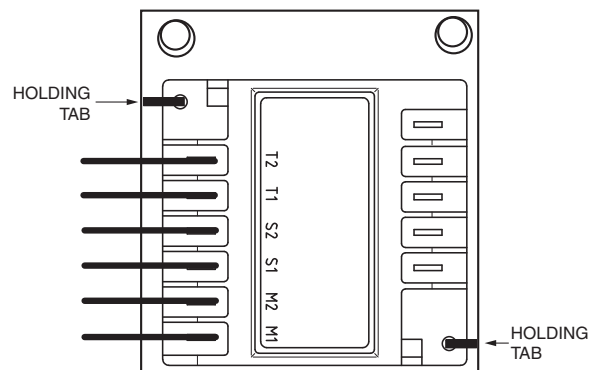

Fig. 161 — Kriwan Motor Protection Module Removal
4. Gently bend the holding tabs holding the Kriwan module in the terminal box and remove the Kriwan module from the terminal box. See Fig. 161.